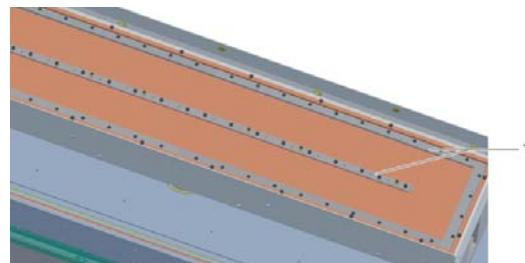

Fig. 8-2 Removing the clamping ledges
- 2 Remove the clamping ledges (1) of the cooling membrane, see Fig. 8-2, 250.